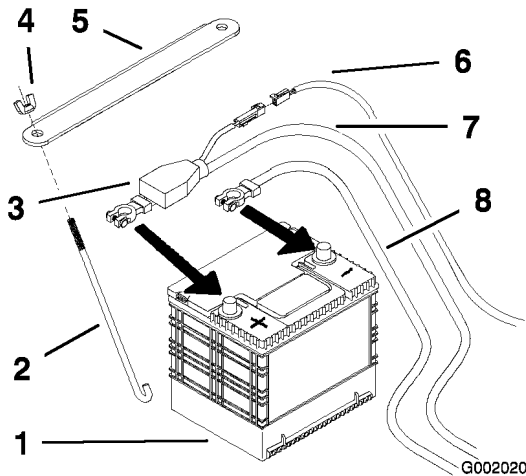

Figure 51
4. First disconnect the negative battery cable from the negative (-) battery terminal (Figure 51).
5. Slide the red terminal boot off the positive (red) battery terminal. Then remove the positive (red) battery cable (Figure 51).
1. Position battery in the tray with the terminal posts opposite from the hydraulic tank (Figure 51).
4. Secure the cables with 2 bolts (1/4 x 3/4 inch), 2 washers (1/4 inch), and 2 locknuts (1/4 inch) (Figure 51).
6. Secure the battery with J-bolts, hold down clamp, 2 washers (1/4 inch), and 2 wing nuts (1/4 inch) (Figure 51).